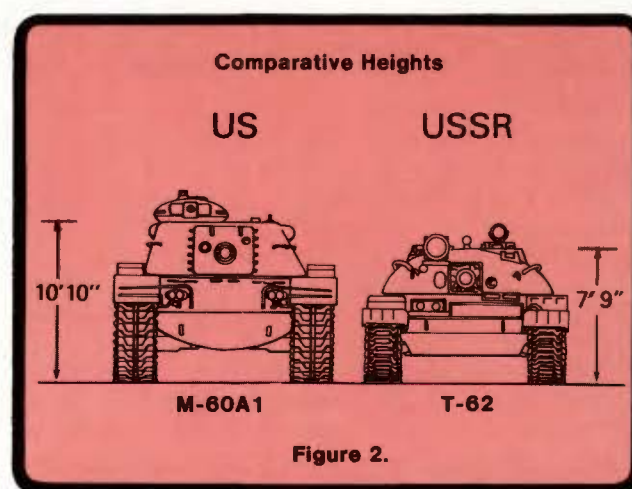

Figure 2.
Figure 1 compares U.S. and Soviet armor evolution, culminating in the 38-ton *T-72*. More weight equals more cost for comparable agility. The chart describes numerous post-war characteristics, including overall size, armament, basic load, horsepower-to-ton ratios, and other performance characteristics. The actual silhouettes of the *T-72* and the *XM-1* would show little difference in height, although the relative sizes of the two previous adversaries were strikingly different. A height comparison sketch is provided of the Soviet *T-62* and U.S. *M-60A1* as figure 2.
Note: Figures 2 through 5 are reprinted from TRADOC Bulletin Number 1, entitled "Range and Lethality of U.S. and Soviet AntiArmor Weapons (U)." Date of publication 30 September 1976, U.